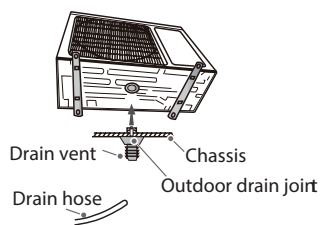

Fig.19
2. Connect the drain hose into the drain vent. (As show in Fig.19)